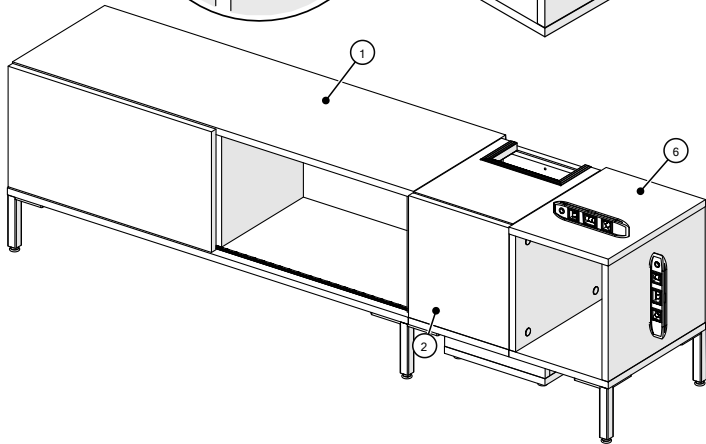

Figure 4
- 5. Level/align the end box from front to back and side to side by rotating the adjustable glide counterclockwise to extend the glide and raise the end box, (Figure 4).